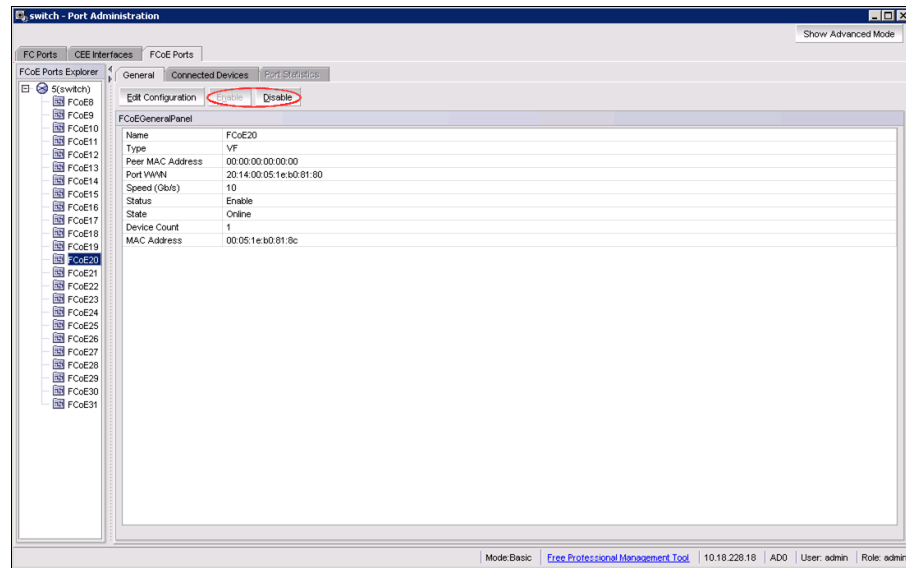

Figure 5-46 Enabling and disabling an FCoE trunk
3. Click **Enable** or **Disable** to change the current status of the trunk. (Figure 5-46).